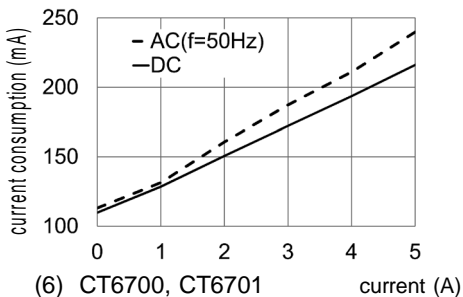

Fig.1
- Make sure the sum of the current consumption of the connected current probe does not exceed the rated output current of the 3272 (See Fig.1).